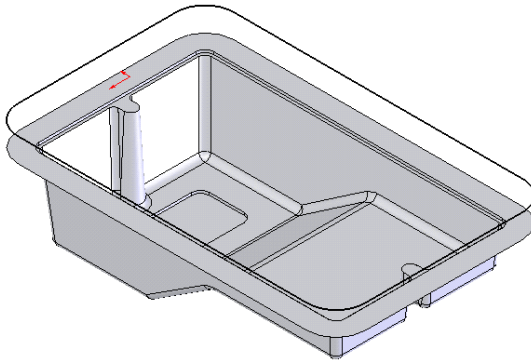

Figure 17-44 Sketch for creating the core
10. Select the newly created plane as the sketching plane and create the sketch of the core as shown in Figure 17-44.